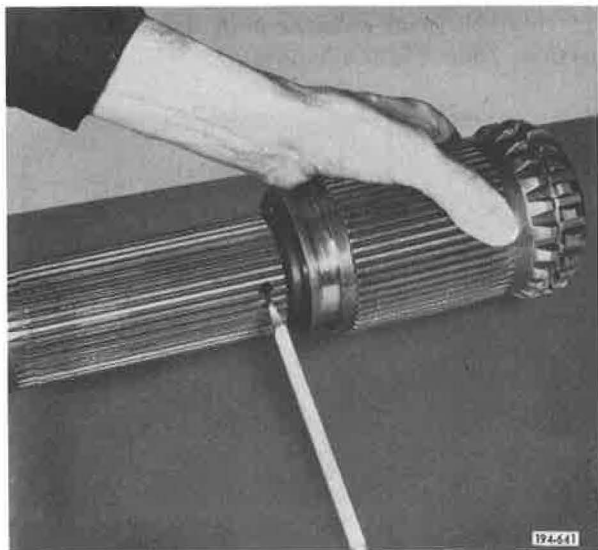

Figure 5-510. Installing Sliding Clutch
13. Install second/third speed sliding clutch onto front mainshaft. See Figure 5-510.